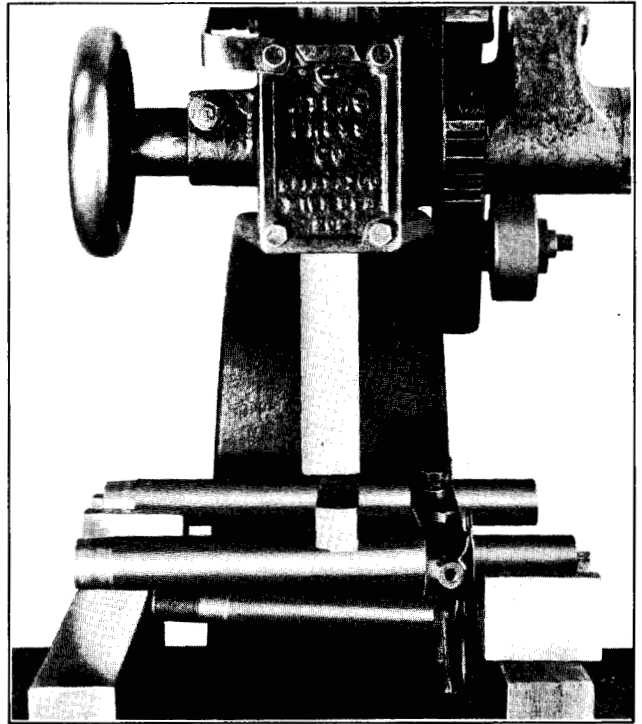

Figure 2-34H. Straightening Fork Stem and Bracket Assembly
STRAIGHTENING FORK STEM AND BRACKET ASSEMBLY (Figure 2-34H)
Insert two steel gauging bars in the fork bracket and secure in place with two bracket pinch bolts as shown in Figure 2-34H.
If both legs are twisted, place bracket assembly in position or arbor press as shown in Figure 2-34H. Place two straightening blocks under low legs (A and B). With press block (Z) placed straight across bracket assembly, press until legs (C and D) are forced down and into alignment with legs (A and B).